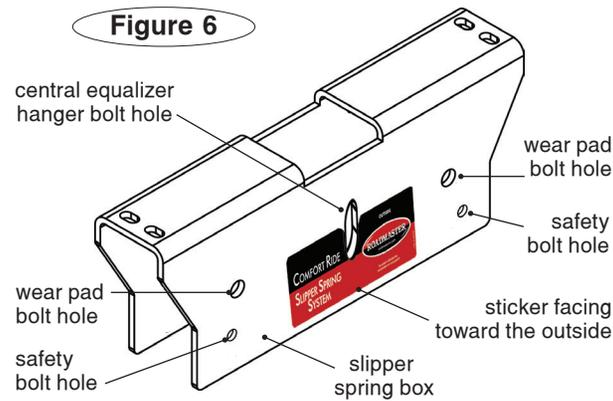

Figure 6
**b.** With the sticker (Figure 6) facing the outside of the trailer, slide the slipper spring box up and over the equalizer hanger bracket. Align the central slotted hole on the slipper spring box to the hole in the equalizer hanger bracket.
**12.** Installing the new slipper springs (refer to Figure 6 for the bolt locations in steps 12 and 13):
**b.** Insert a 7/16" bolt through the safety bolt hole (refer to Figure 6), a 2½" pipe spacer, and then through the other side of the slipper spring box.